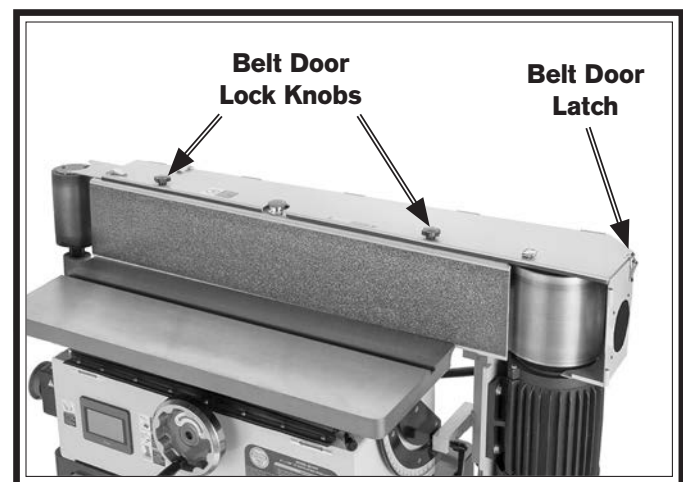

Figure 18. Location of belt door latch and lock knobs.
1. Unlatch belt door latch shown in **Figure 18**.
2. Open belt access door by loosening (2) belt door lock knobs (see **Figure 18**).